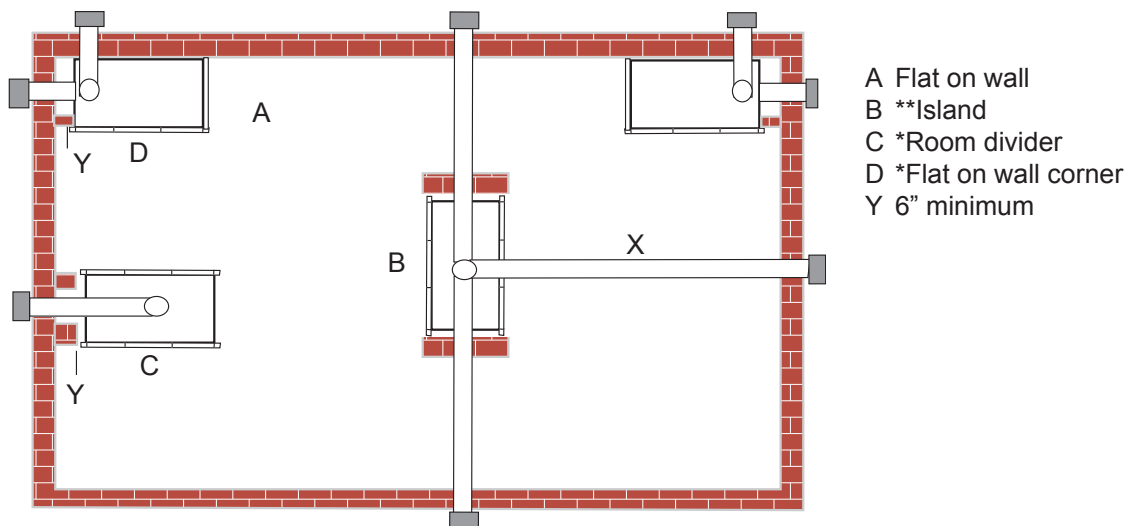

**Figure 8 -
- This fireplace may be installed along a wall, across a corner, or use an exterior chase. Refer to *Figure 8* for suggested locations.